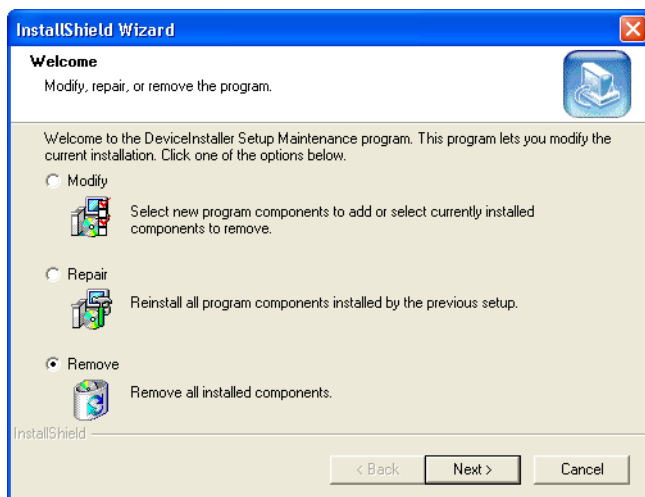

Figure 9: Alternate DeviceInstaller Wizard Welcome Window
6. If a DeviceInstaller is already installed on the system, a different window will appear allowing the modification, repair, or removal of the installed software (see Figure 9).